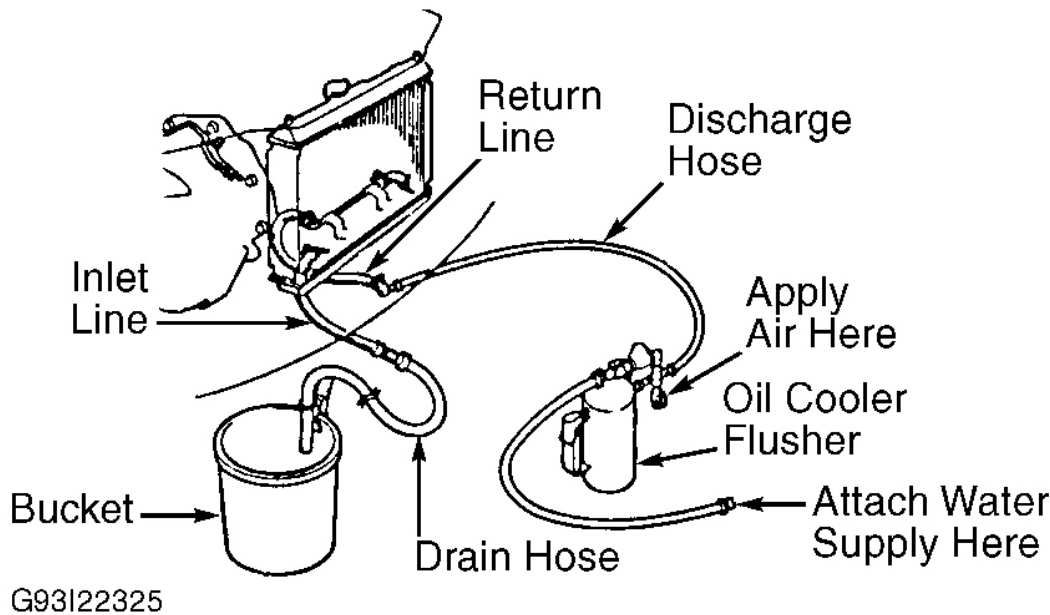

Fig. 4: Installing Oil Cooler Flusher
1. Attach Oil Cooler Flusher (J38405-A) to oil cooler lines. See **Fig. 4** . Fill oil cooler flusher tank 2/3 full with Flushing Fluid (J35944-20). **DO NOT** use any other flushing fluid.